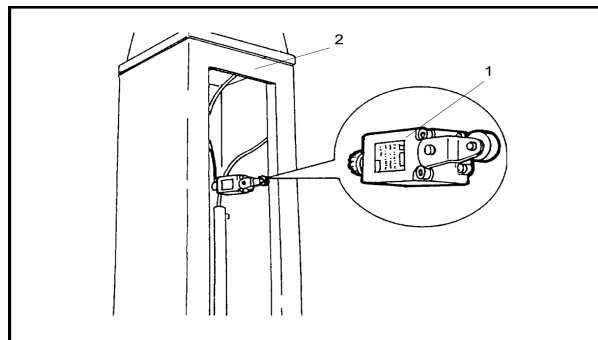

Fig.25 Movement safety device
- If the movable part of the lift should attempt to move outside it's normal operating range there is an electric limit switch safety device (1) in the control post and a steel locking plate (2) on the top of all four posts (fig.25)